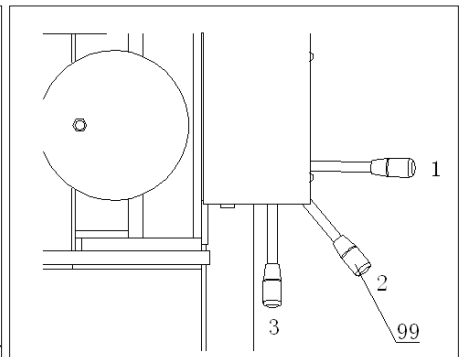

Fig.13
• 3 positions for the handle lever of selector valve: When it is in position 1, the piston rod is retracting; When it is in position 2, the piston rod is stopping moving; When it is in position 3, the piston rod is extending. Fig.13